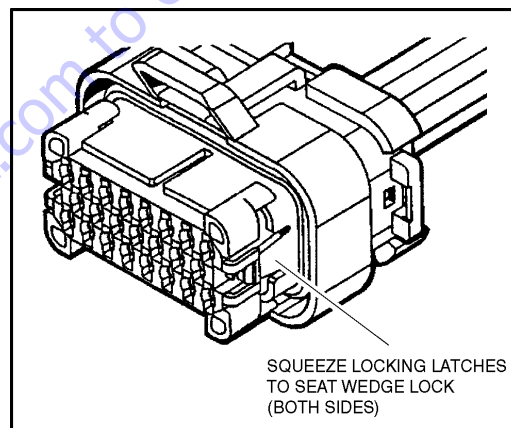

Figure 7-12. Connector Assembly (3 of 4)
3. After all required contacts have been inserted, the wedge lock must be closed to its locked position. Release the locking latches by squeezing them inward (See Figure 7-12. Connector Assembly (3 of 4)).